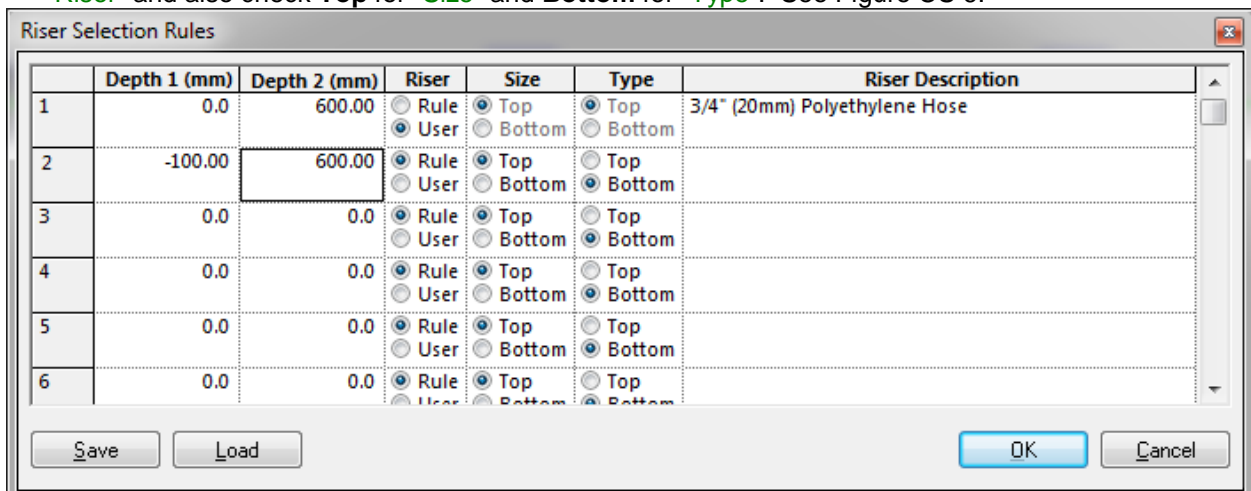

Figure CS 6
5. Now we can set the “Rule” for the control valves. Set “Depth 1” to **-100** and “Depth 2” as **600**. As our riser is going to be the same size and type as the submain itself so we will leave **Rule** checked for “Riser” and also check **Top** for “Size” and **Bottom** for “Type”. See Figure CS 6.